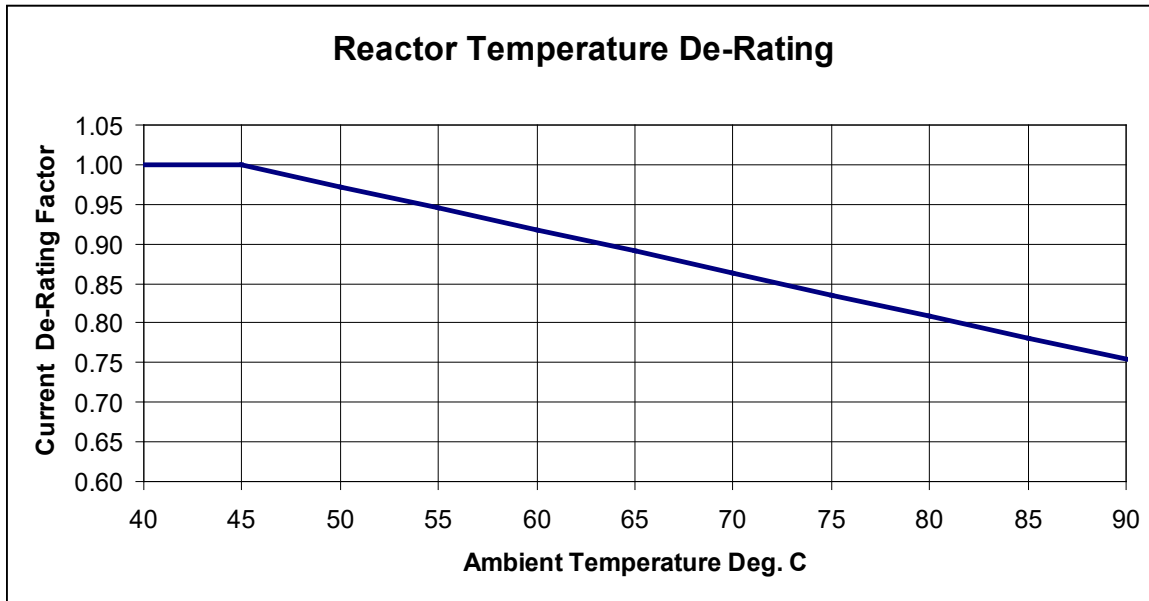

Figure 3-2: Temperature Derating
- Temperature:** See Table 3-1: Performance Specifications (p5) for operating temperature information and Figure 3-2: Temperature Derating (p7) for derating information.